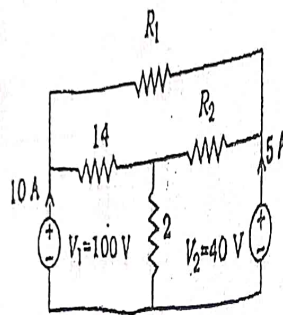

Fig. 1
Q. 3. (a) Find the resistor value  $R_1$  in the Fig. 1 show below :